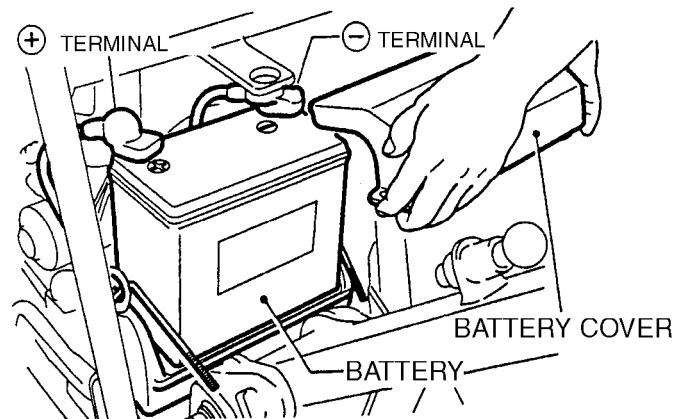

Figure 29. Battery Maintenance
1. Take off the battery cover by removing the M6 nuts (Figure 29).
2. When removing cable, disconnect the ground side (normally negative) first (Figure 29).